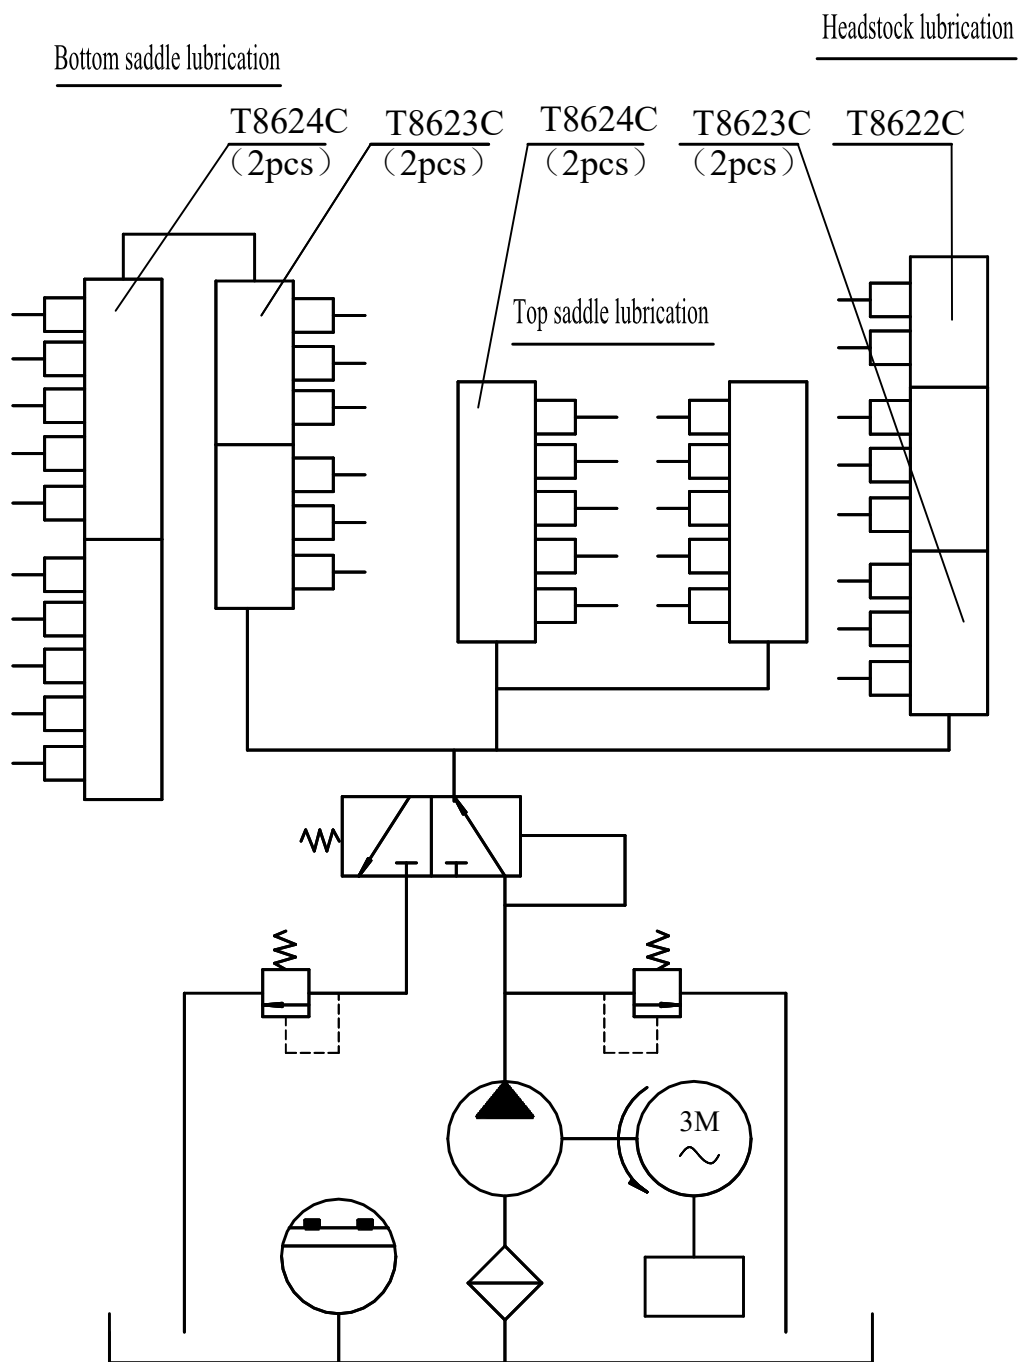

Fig.6-2 Lubrication principle diagram of the machine
6.4 The guideways and various lubrication points of the cross & longitudinal saddles and rotary worktable (not including rear column parts) is lubricated and supplied by the fixed quantity lubrication pump mounted on the back side of the longitudinal cross. The fixed quantity pump is equipped with hole for filling oil and as well as oil leveler, see Fig.6-2. Lubrication for the gear box in the front of longitudinal saddle adopts splash-lubrication ways, and oil leveler and filling hole are supplied on the side of the gear box.